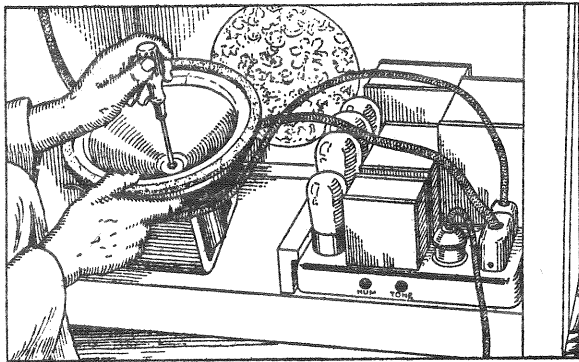

Fig. 13—Centering Cone in Electro Dynamic Reproducer
- Loosen the center screw as shown in Fig. 13, and then re-tighten the screw.